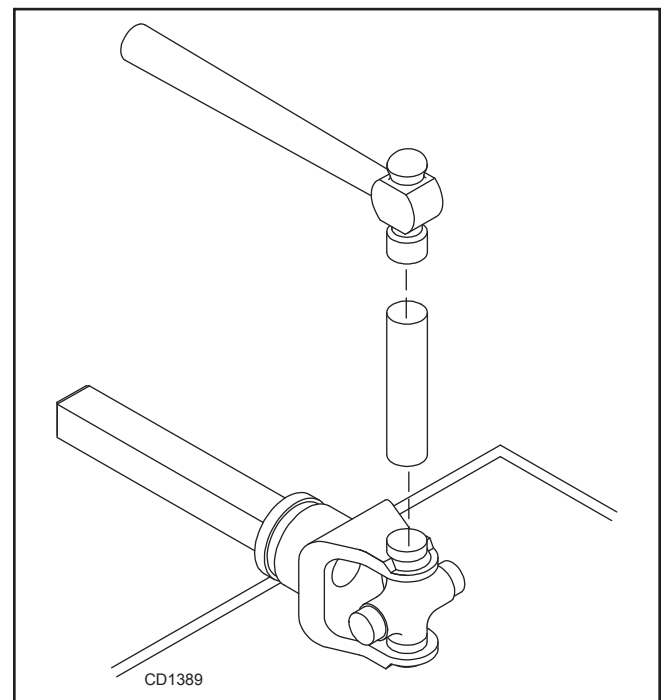

Figure 27. Install Bearing Cups
2. Seat cups by placing a drift or socket (slightly smaller than the cup) on cup and rap with a hammer. See Figure 27. Install snap ring and repeat on opposite cup.